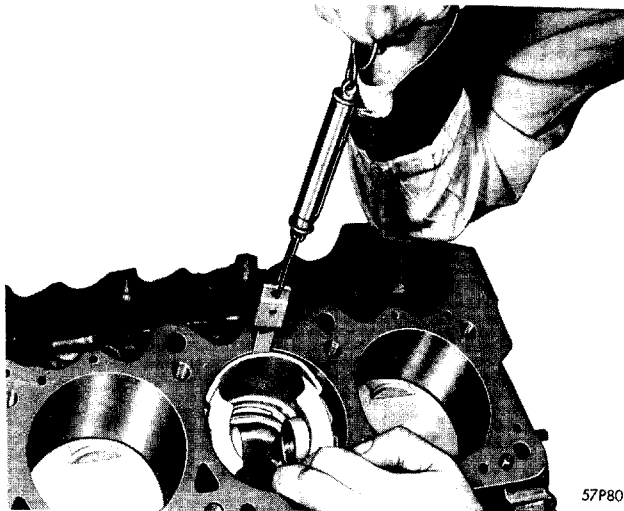

Fig. 16—Fitting Piston in Cylinder Bore
(2) Hold the piston and draw the feeler stock straight out, with the spring scale.
(3) The amount of pull required should be from 5 to 10 pounds (Fig. 16).